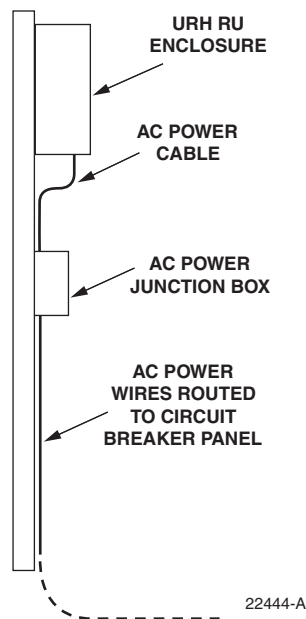

Figure 10. Typical AC Power Cable Routing
2. Route the power cable between the AC power port, located on the underside of the remote unit and the nearest AC power junction box as shown in Figure 10. It may be necessary to install a new junction box if an existing junction box is not available.